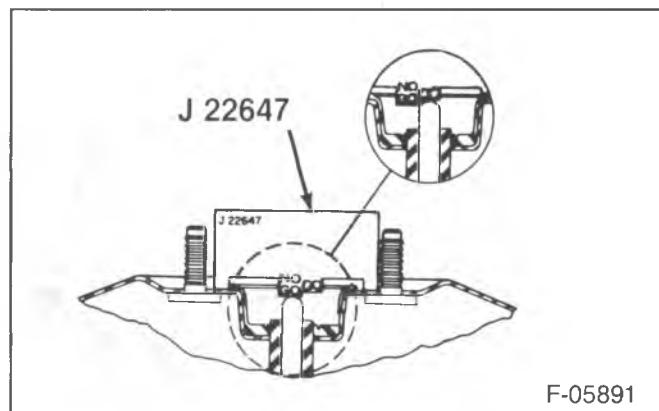

Figure 24—Gaging the Piston Rod
11. Front housing seal (5).
12. Silencer (2) and boot (1).
- Gage the piston rod using J 22647 (figure 24). If not within limits, obtain a service adjustable piston rod.